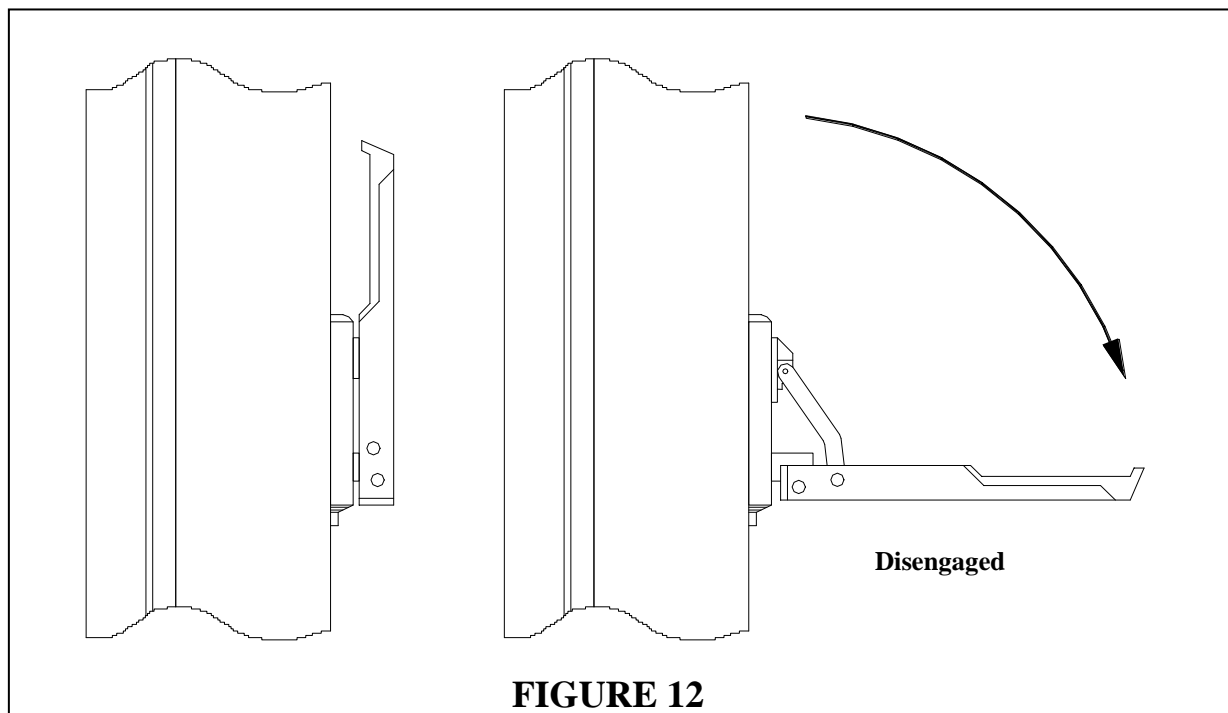

FIGURE 12
Step 1 Manually bring the door to the halfway closed position. This can be done by pulling down on the brake release lever to release the drive unit brake and moving the curtain by hand (**Figure 12**).